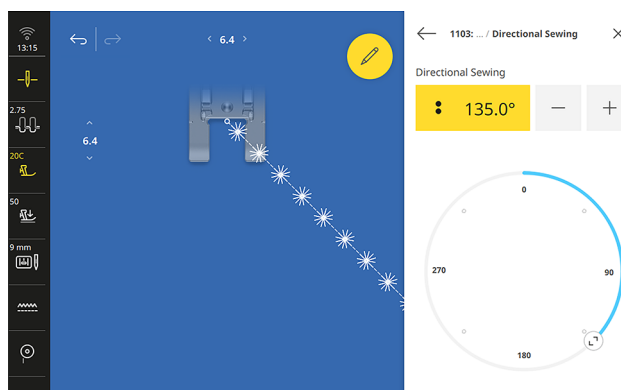

Fig. 26
4. Using the touchscreen, select 135 degree and sew diagonally (Fig. 26), then try 225 degree.